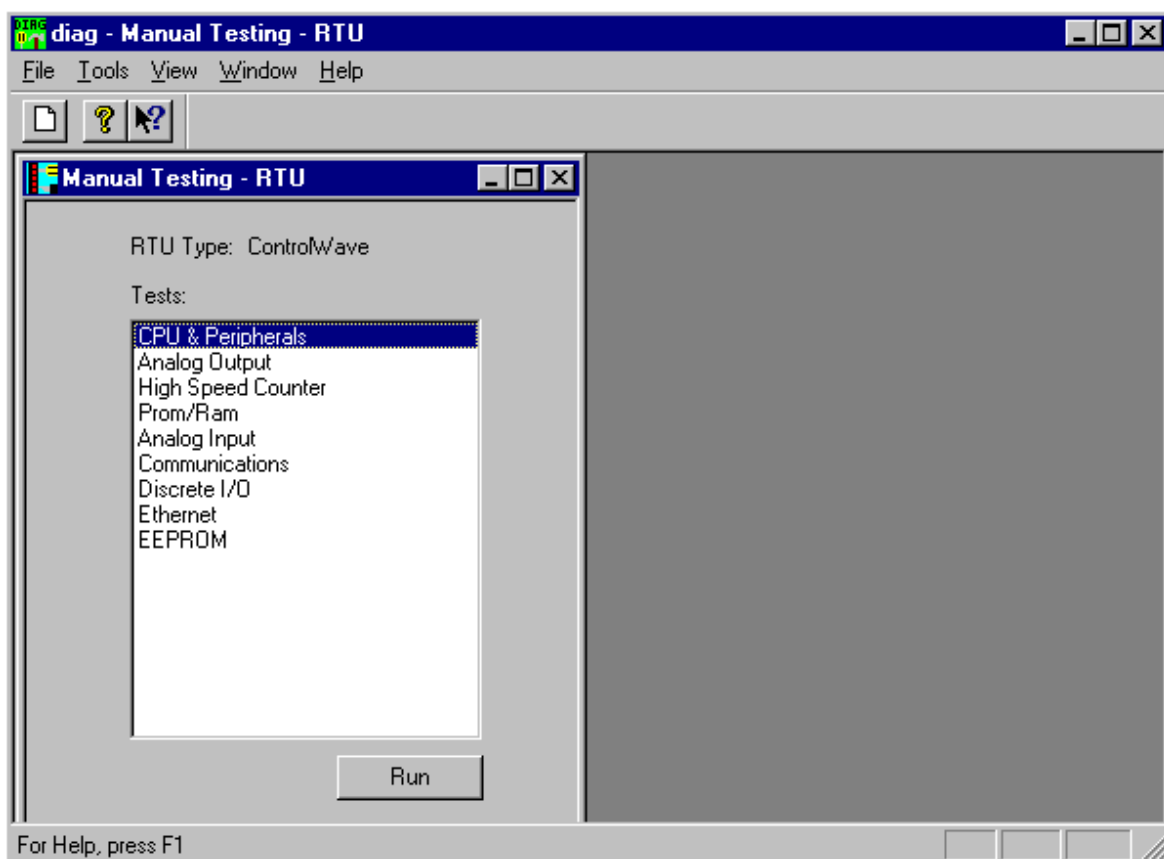

Figure 3-8 - WINDIAG Main Diagnostics Menu
3. Once WINDIAG has been entered, the Main Diagnostics Menu of Figure 3-8 will appear.
All Controllers Modules except the Power Supply/Sequencer Module can be tested using the WINDIAG program. From WINDIAG's Main Diagnostics Menu (see Figure 3-8) the following diagnostic tests can be performed: